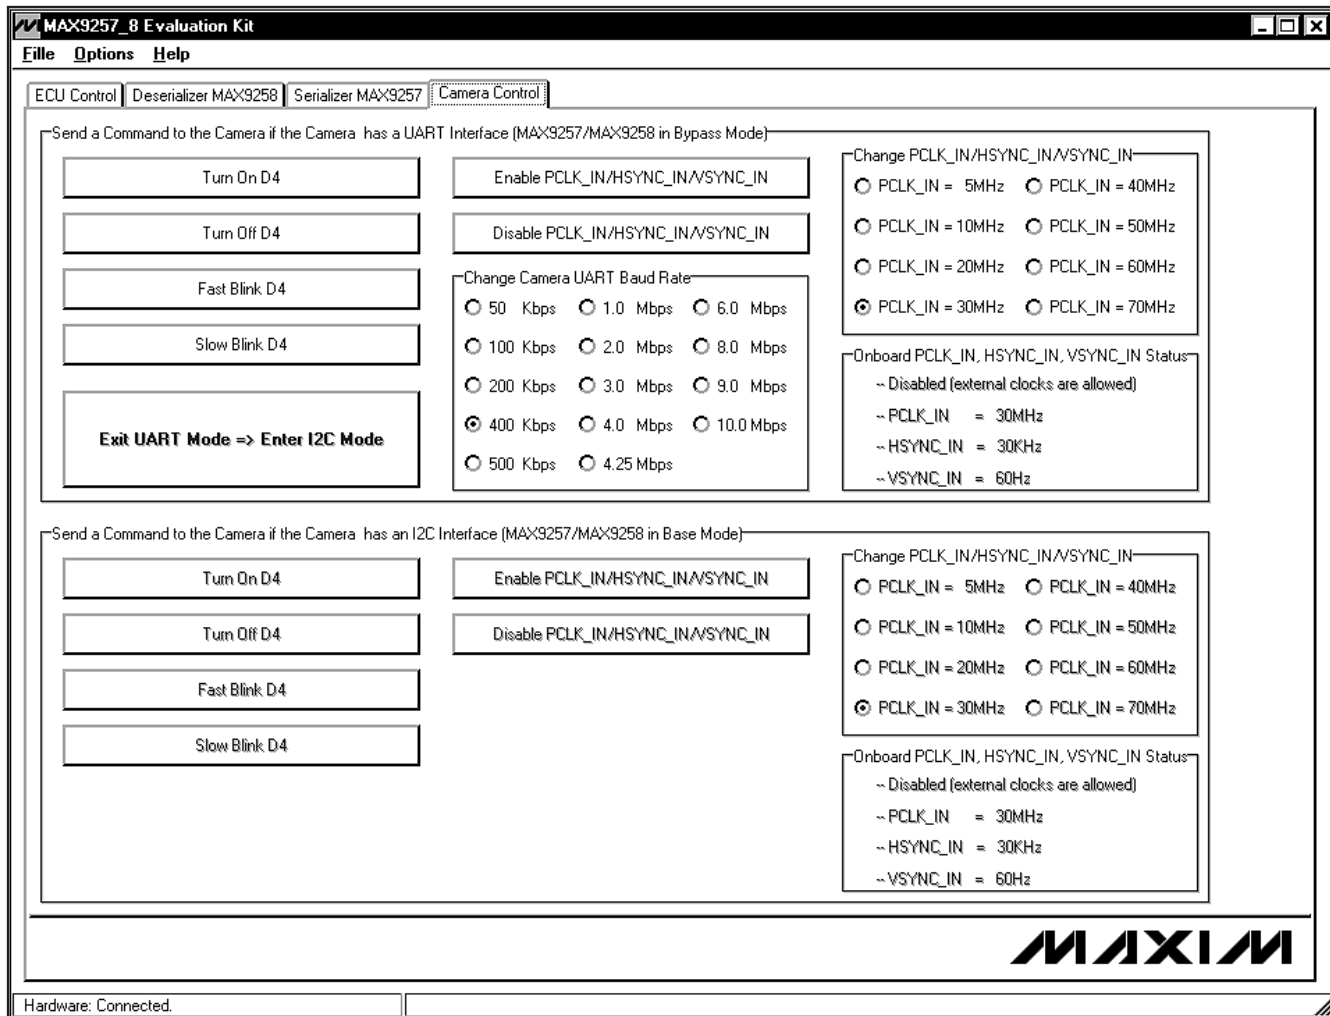

Figure 6. MAX9257/MAX9258 Evaluation Kit Software—Camera Control Tab
- 23) Click on the **Camera Control** tab to move to the **Camera Control** tab sheet (Figure 6).
On the **Camera Control** tab sheet (Figure 6), the ECU can communicate to the emulated camera during a control-channel session.
- 10) Navigate to the **Camera Control** tab sheet (Figure 6). Press the **Turn On D4**, **Turn Off D4**, **Fast Blink D4**, and **Slow Blink D4** buttons, respectively, to verify that the ECU is communicating to the camera properly.
- 11) Navigate to the **Camera Control** tab sheet (Figure 6). On this tab sheet, all ECU commands to the camera follow this order in one control-channel session:
- 6) Navigate to the **Camera Control** tab sheet (Figure 6) and press the **Exit UART Mode => Enter I²C Mode** button (this button is available only when CTO is not equal to 0).